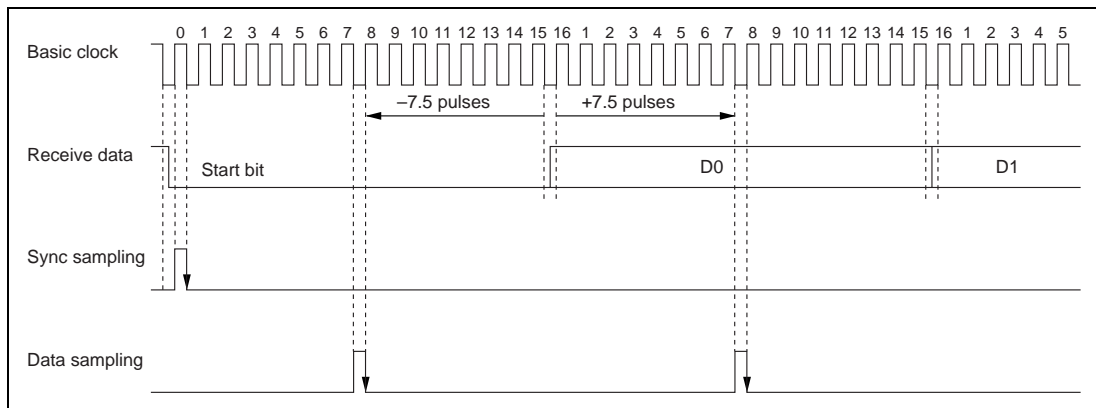

Figure 10.18 Sampling Timing (Asynchronous mode)
(4) Sampling Timing and Receive Margin in Asynchronous Mode: The serial clock used by the SCI in asynchronous mode runs at 16 times the baud rate. The falling edge of the start bit is detected by sampling the RxD input on the falling edge of this clock. After the start bit is detected, each bit of receive data in the frame (including the start bit, parity bit, and stop bit or bits) is sampled on the rising edge of the serial clock pulse at the center of the bit. See figure 10.18.